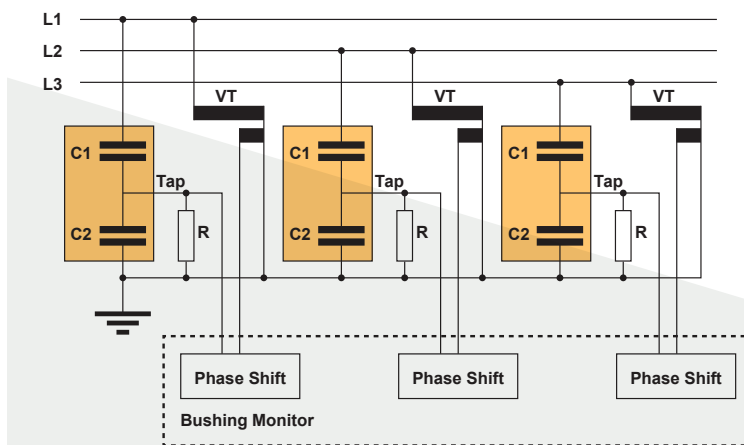

Figure 5. Principle of Reference signal method
The only approach to overcome this drawback is to find a load independent reference signal source within the same phase as the monitored bushing. A voltage transformer (VT) always has a stable load on its secondary winding. Furthermore, the VTs do not change their transfer behavior according to the load of the network. As pure measurement principle, the phase shift measurement between leakage current and reference signal reduces the needed hardware to a minimum because after digitizing the signal, all signal processing will be done by software algorithms. Figure 5 shows the principles of the reference signal method using VTs from the same phase.